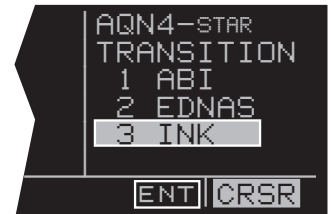

Figure 6-40
4. The KLN 900 will now ask which transition you want to use. For this example select **INK** (figure 6-40) and press **ENT**.